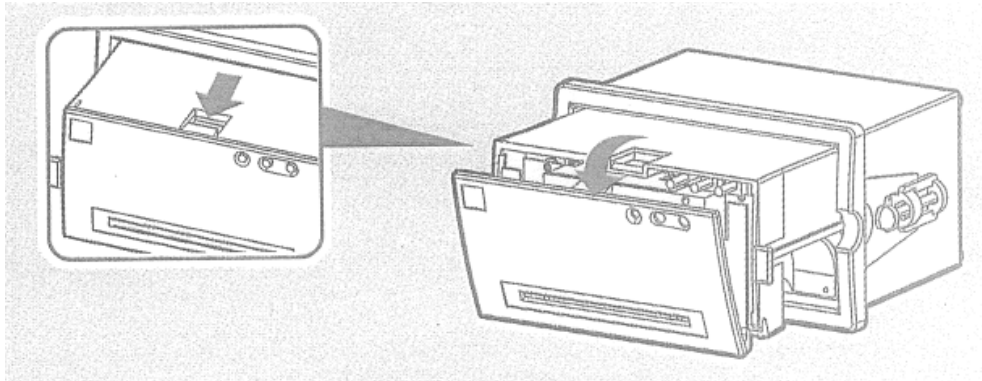

Figure 83
- B. Pull out of the printer and push outward the clip to remove front cover as show in Figure 83.